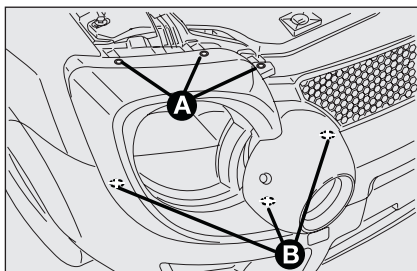

fig. 15
- loosen the three fastening screws **A**-fig. 15 and remove the headlight cover;